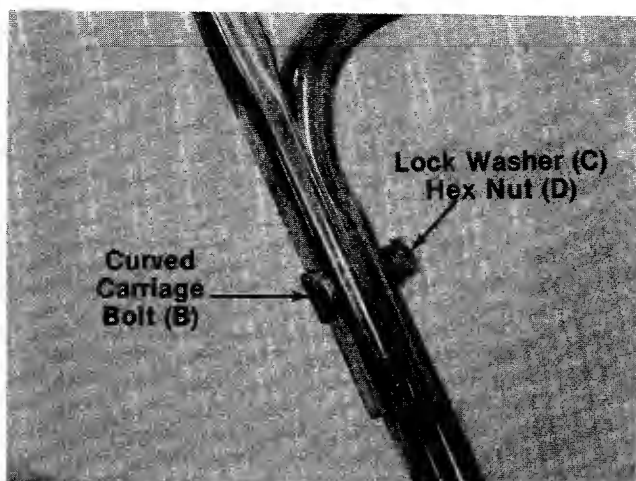

FIGURE 3.
4. Place upper handle in position over lower handle. Control housing should be on the **left** side of the handle. Secure with two curved carriage bolts (B), lock washers (C) and hex nuts (D) as shown in figure 3.